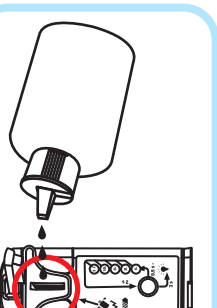

FIG. 2A
- C.** Pour salt water from the salt water bottle into the reaction chamber until the chamber is nearly full of salt water. (FIG. 2A)